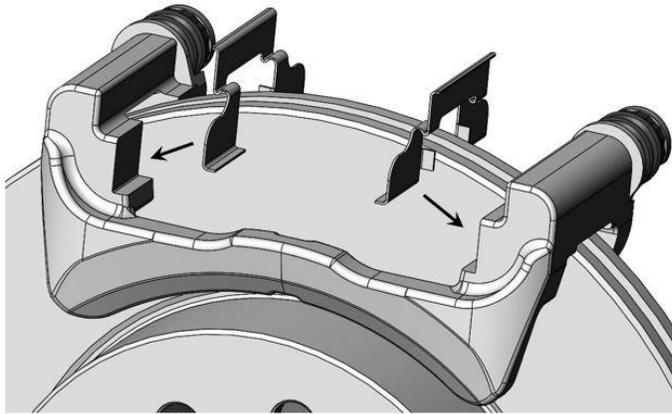
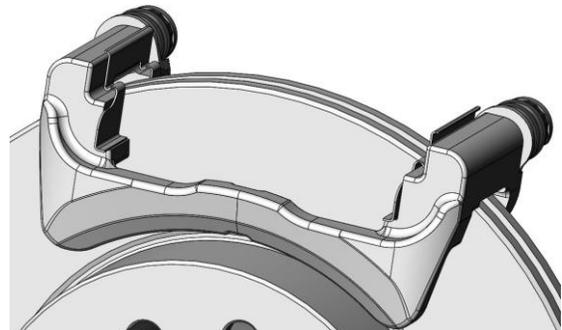

Figure 6a – Abutment Clips Installation
Figure 6b – Abutment Clips Installed
10. Place the Stainless Steel Abutment Clips into the Caliper Anchor Bracket at this time. Refer to Figure 6a and Figure 6b Below for installation reference.